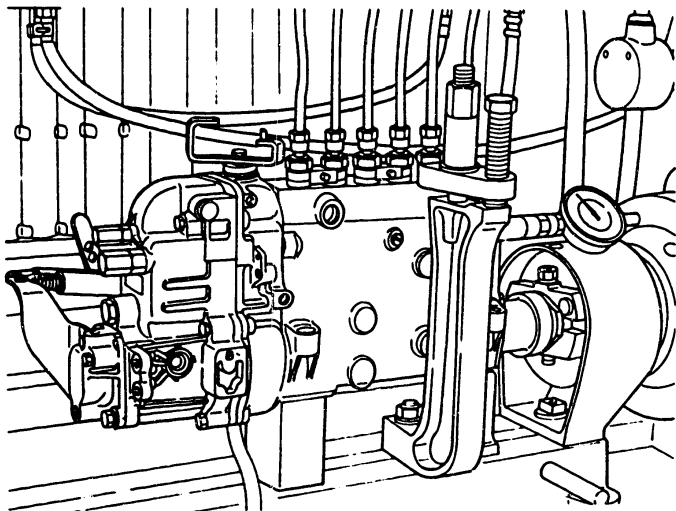

Fig. 64 Mounting injection pump
1. Mount the injection pump assembly securely on a pump test stand. Then, attach the test nozzle and nozzle holder assembly, test lines and measuring device to measure control rack travel, to the injection pump. (Fig. 64)
2. Remove the damper spring (220), cover (80), torque control spring (331) and idling spring (140), and loosen adjusting screw (181/3).